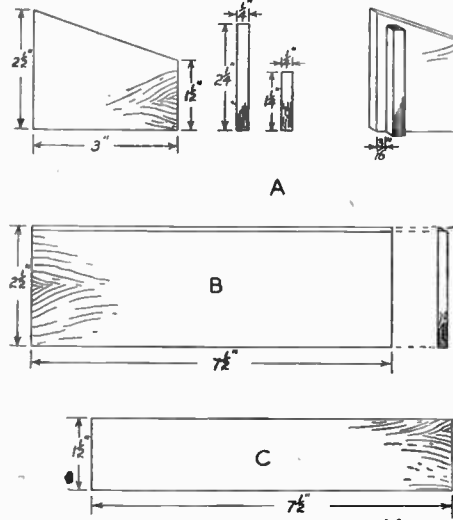

Fig. 3—Details of the sides, back and front
Commence on the sides, details of which are given in (A) Fig. 3. Cut two pieces 3 ins. long by $2\frac{1}{2}$ ins., tapering the top edge down to $1\frac{1}{2}$ ins., as clearly indicated. Cut two pieces $2\frac{1}{2}$ ins. by $\frac{1}{2}$ in., and two pieces $1\frac{1}{2}$ ins. by $\frac{1}{2}$ in., and glue
one of each on the sides $\frac{1}{8}$ in. from the edges, as clearly shown in (A) Fig. 3. The back is indicated in (B) Fig. 3, and consists of a piece of plywood $7\frac{1}{2}$ ins. long by $2\frac{1}{2}$ ins. wide.
The front for the box is simply a piece of plywood cut $7\frac{1}{2}$ ins. long by $1\frac{1}{2}$ ins. wide, as indicated in (C) Fig. 3. The parts thus cut are well smoothed up with glasspaper, and then fixed together with glue and allowed to set hard, after which all surplus glue showing can be carefully scraped off.